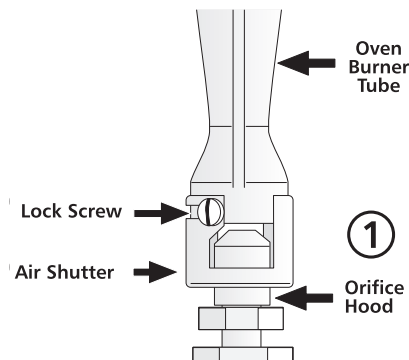

Figure 14
- If adjustment to the air shutter is necessary, locate the broiler burner air shutter (See figure 14), loosen shutter lock screw, and adjust to obtain optimum flame. This will normally be completely open for LP/ Propane gas. If the flame is yellow in color, increase the air shutter opening size. If the flame is a distinct blue, but lifting away from the burner, reduce the air shutter opening size. Tighten the shutter set screw.